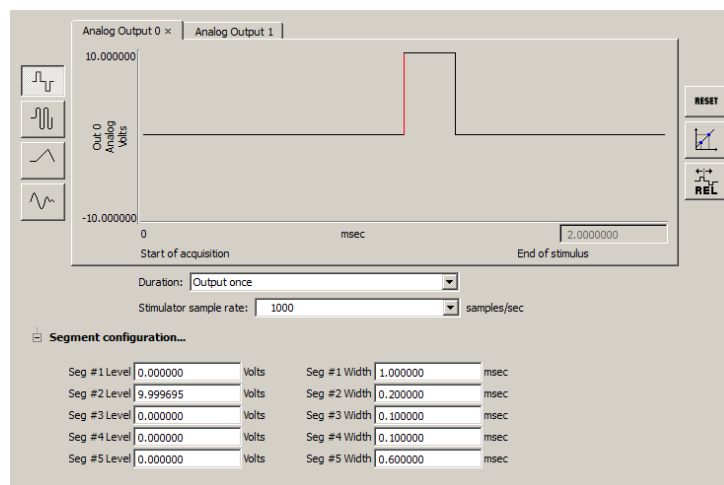

Figure 3: Stimulator setup window for Nerve Conduction Study
3. Under **Set Up Data Acquisition > Stimulator**, create a 10 volt square wave with a 200 μ sec (.2 msec) pulse width to be output once on Analog Output 0 (as shown below in Figure 3).